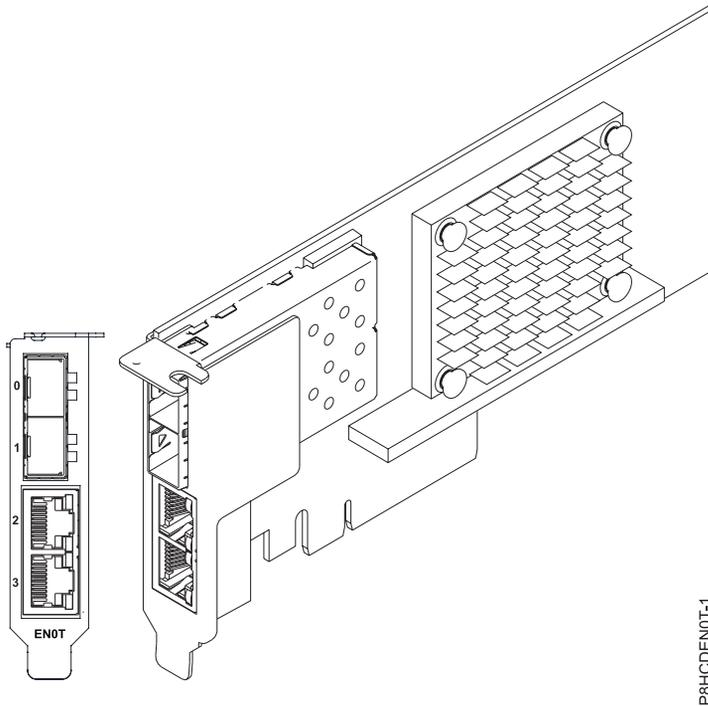

Figure 57. FC EN0T adapter
The four-port adapter provides two 10 Gb small form-factor pluggable (SFP+) optical SR transceiver ports and two 1 Gb RJ45 Ethernet ports. The two 10 Gb SR ports have little connector (LC) duplex-type connectors. The optical transceiver uses shortwave laser optics and is attached with MMF-850nm fiber cabling with LC connectors. See “Cables” on page 69 for more information about the optical cables. Each 10 Gb port provides Ethernet connectivity with a nominal data rate of 10 Gbps (gigabits per second). Figure 57 on page 68 shows the FC EN0T adapter.